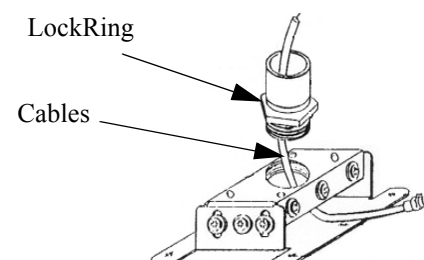

Figure 5. Lock Ring and Cables on RPA
3. Thread the locking ring against the RPA to lock the RPA in position and, if desired, route the cables through the RPA and pipe as shown in Figure 5.